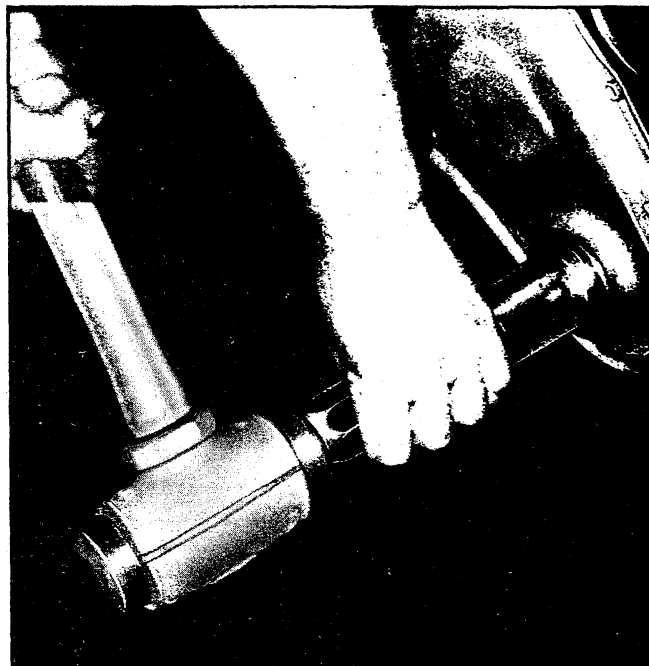

Fig. 13L - Installing Oil Seal (Cover Installed)
2. Install new seal so that open end of seal is toward the inside of cover and drive it into position with Tool J-8340 (fig. 13L).